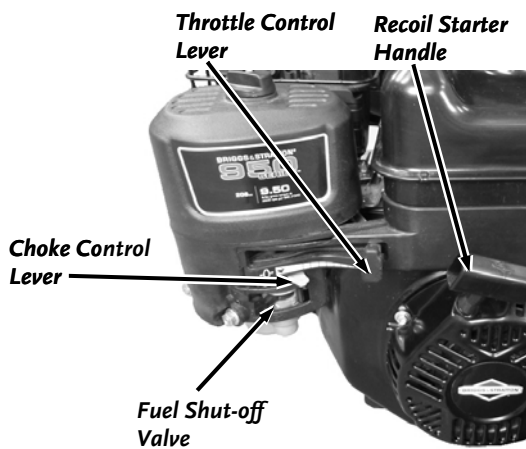

Figure 18
2. Make sure the fuel shut-off valve is in the “ON” position (**Figure 18**).
7. Move the choke control lever (if used for cold engine) slowly back to the OPEN position (to the right) when the engine is running well (**Figure 18**).
1. Move the Throttle Lever to Idle “Turtle” position (**Figure 18**).